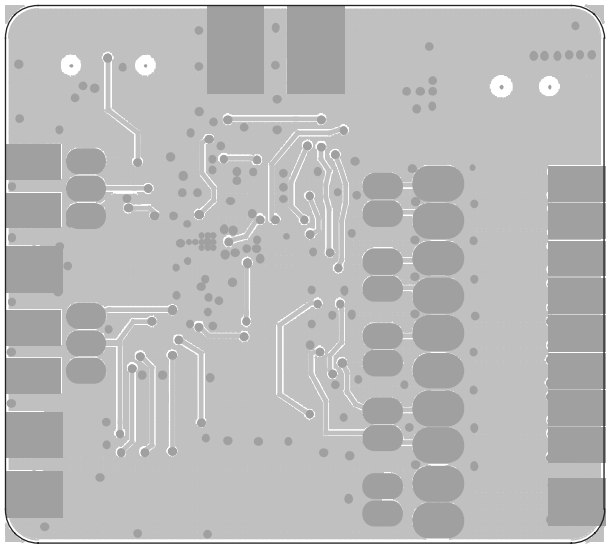
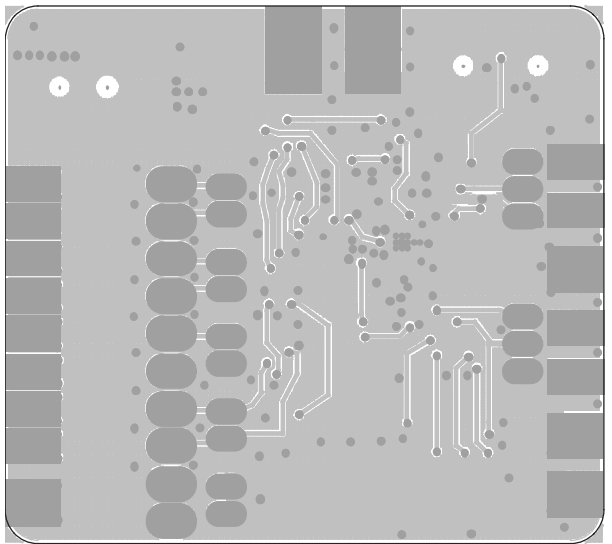

Figure 44. Bottom Layers
Figure 45. Mirrored Bottom Layers
11. Use a solid polygon plane on the other side of the PCB for the area of the vias that are placed on the thermal pad of the chip (see Figure 44 or Figure 45).